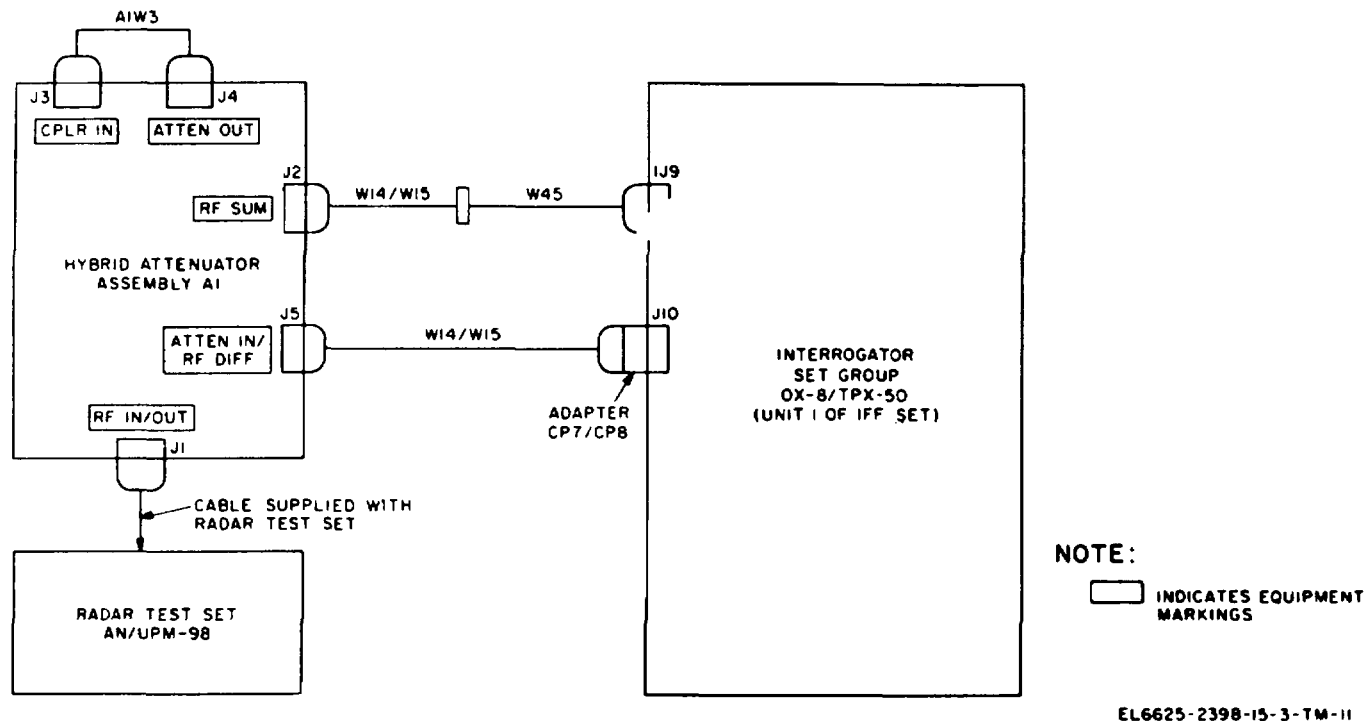

Figure 3-4. Typical hybrid attenuator receiver and transmitter test connections.
(1) The test connections between the iff set and the hybrid attenuator, shown in figure 3-4, are typical for most of the receiver and transmitter tests on the iff set. Consult the individual test procedure in the TM 11-5895-687-35-4 for possible deviations in the test connections and for prescribed settings of the ATTENUATOR control.
(2) Cable W45 and adapter CP7/CP8 enable connection of cables W14/W15 from the hybrid attenuator to the RF sum (J9) and RF difference (J10) channels, respectively.